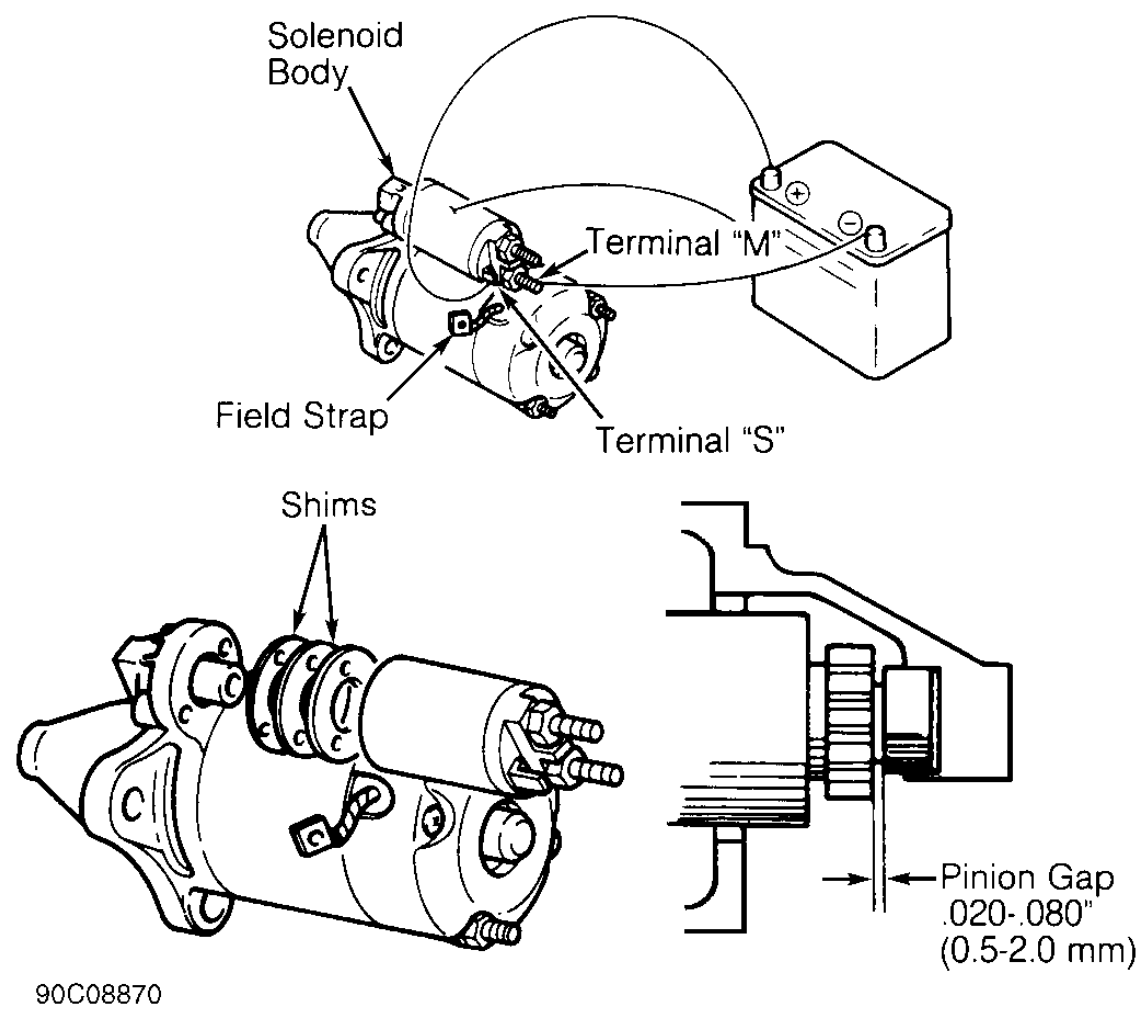

Fig. 5: Measuring Pinion Gap
1. Disconnect field lead from terminal "M" of solenoid to prevent starter from turning. See Fig. 5 . Connect jumper wire from a 12-volt battery positive terminal to terminal "S" of solenoid. Connect another jumper wire from negative battery terminal to terminal "M" of solenoid.
2. Solenoid should energize when battery is connected, kicking out drive pinion. With drive pinion extended, measure pinion gap between drive pinion and collar. Gap should be .020-.080" (.5-2.0 mm). See Fig. 5 .